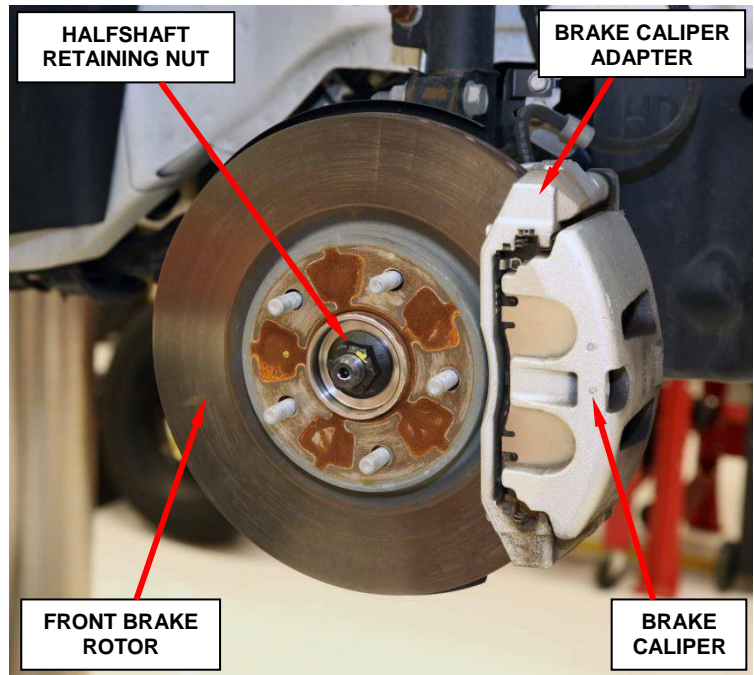

Figure 12 – Halfshaft Retaining Nut
- a. Remove and discard the right and left halfshaft retaining nuts (Figure 12).
- b. Remove and relocate the front brake calipers and adapters as an assembly (Figure 12).